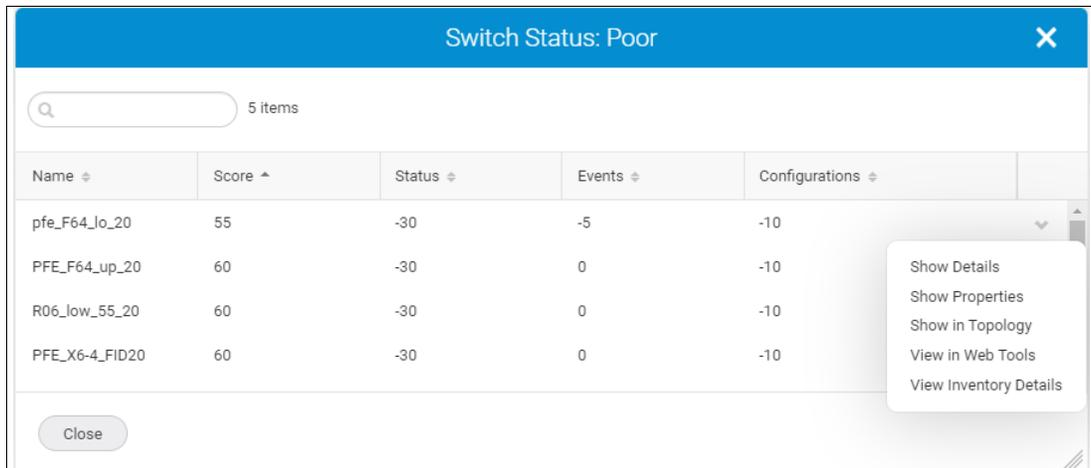

Figure 5-67 Poor action menu
- Depending on the causes for the health score deductions, select other options from the action menu to drill down for more details (Figure 5-67).